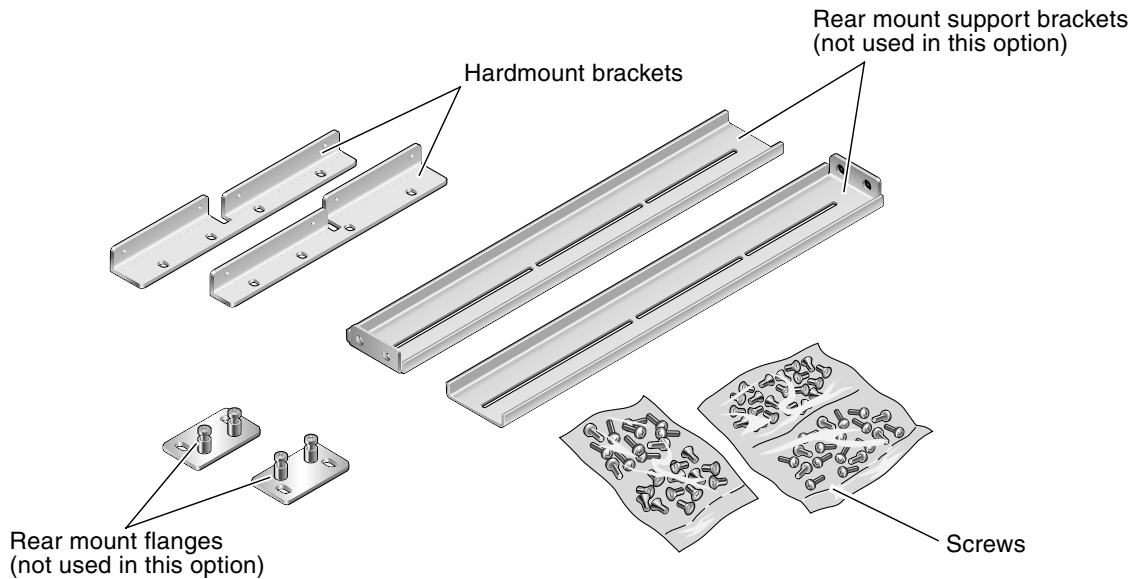

FIGURE 3-26 Contents of the Hardmount 19-Inch 4-Post Kit
1. Get the side brackets from the rack kit (FIGURE 3-26).